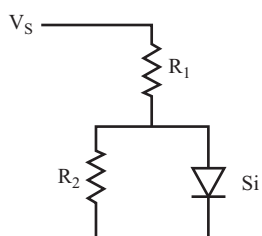

FIGURE 2.37
9. In the circuit shown in Figure 2.37, find the current through the diode.